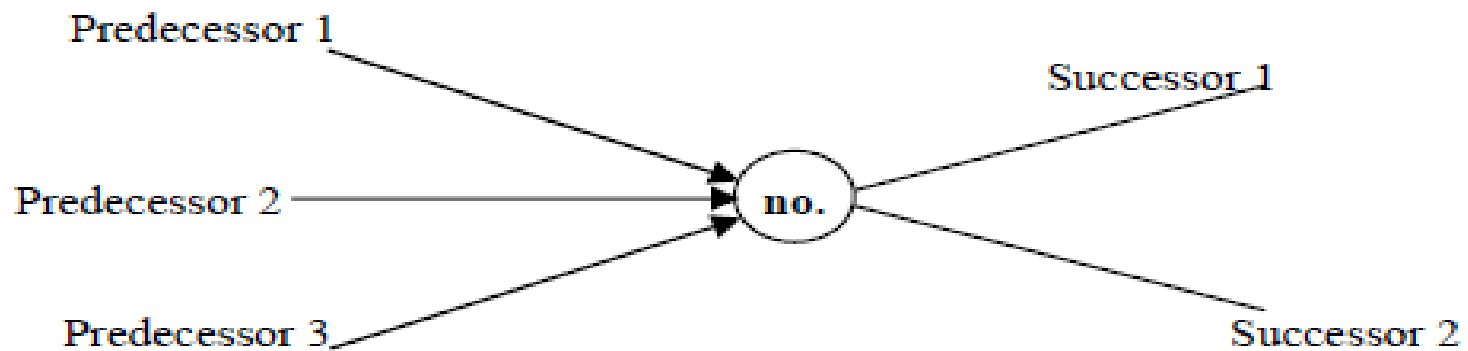

Figure 3: A node in an AOA network
- ❖ Each node in the network, in fact, is a point at which some activities end (head arrows coming into the node), as shown in Figure 3.